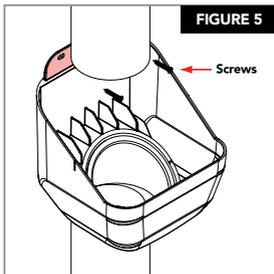

FIGURE 5
STEP 4 Screw the Leaf Eater Advanced™ into position through the screw slots provided. Ensure appropriate screws and anchors (if required) are used. (FIGURE 5)
STEP 5 Screw the Leaf Eater Advanced™ into position through the screw slots provided. Ensure appropriate screws and anchors (if required) are used. (FIGURE 5)